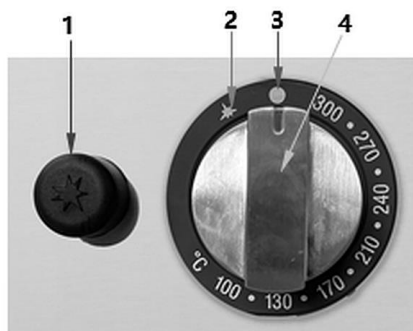

Fig. 12
2. Press the rotary control (4, Fig. 12) and turn it anticlockwise to the ignition position .
3. Hold down the rotary knob (4) and repeatedly press the piezo ignition button (1) for about 20 seconds until the pilot light ignites.
5. If the flame goes out when you release the rotary control (4), repeat the process.